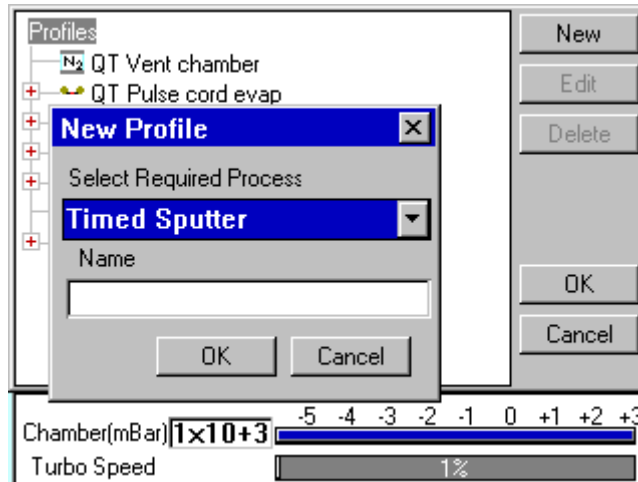

Figure 4-2. Creating a new profile
3. The *New Profile* dialog box is displayed (see **Figure 4-2**).